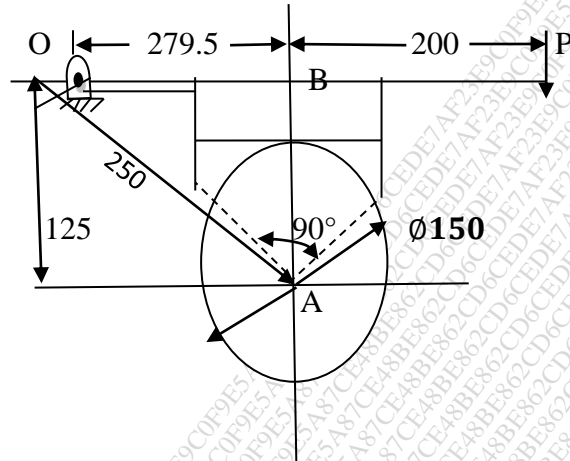

figure 01
- Q.9 Figure 01 shows a long shoe brake. Find the power absorbed and the force P, if the maximum pressure intensity is  $0.8 \text{ mpa}$ . Assume  $\mu = 0.25$ . The width of the shoe is 50mm derive the expression 13